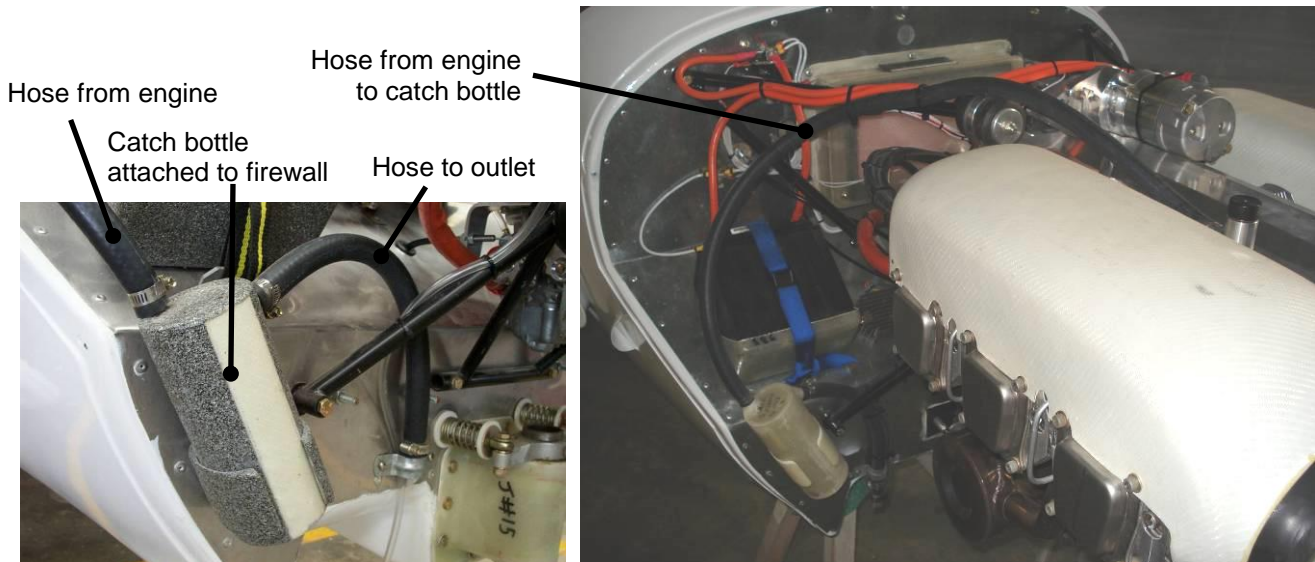

Figure 9. Crankcase Breather Installation
- The Jabiru 2200 engine has a crankcase breather connection built into the dipstick housing. This is to be connected as shown in Figure 9 below.